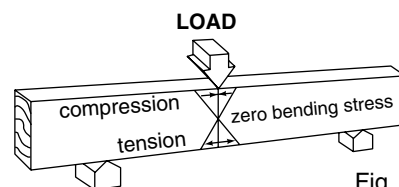

Fig. 1
**Extreme Fiber Stress in Bending -  $F_b$**  (Fig. 1) When loads are applied, structural members bend, producing tension in the fibers along the faces farthest from the applied load and compression in the fibers along the face nearest to the applied load. These induced stresses in the fibers are designated as "extreme fiber stress in bending" ( $F_b$ ).